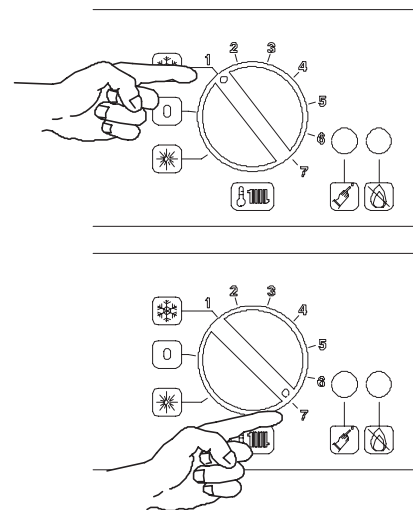

Figure 5.3
- 1 The output temperature of central heating water is adjustable from a minimum of about 100 °F to a maximum of about 189 °F (Figure 5.3), by turning the knob C.